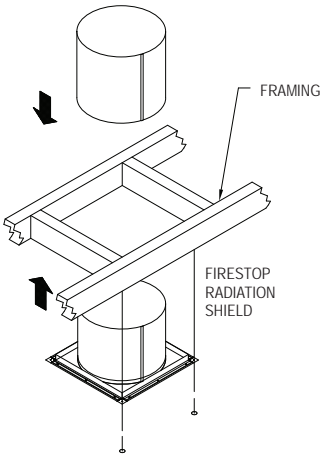

Figure 7
Note: a Firestop Radiation Shield is not installed where the chimney penetrates through the roof. Instead, you will need to install Roof Radiation Shields (required for 18"-24" diameters only - see **Step 7**) around the roof joist members. The Firestop Radiation Shield is installed on the underside of the ceiling/floor framing, with the cylindrical "tube" portion of the shield pointing upward (**Fig 7**). Use a minimum of either (1) 8 penny nail or (1) 1-1/4" wood screws per corner. Refer to Table 2 for framing requirements.